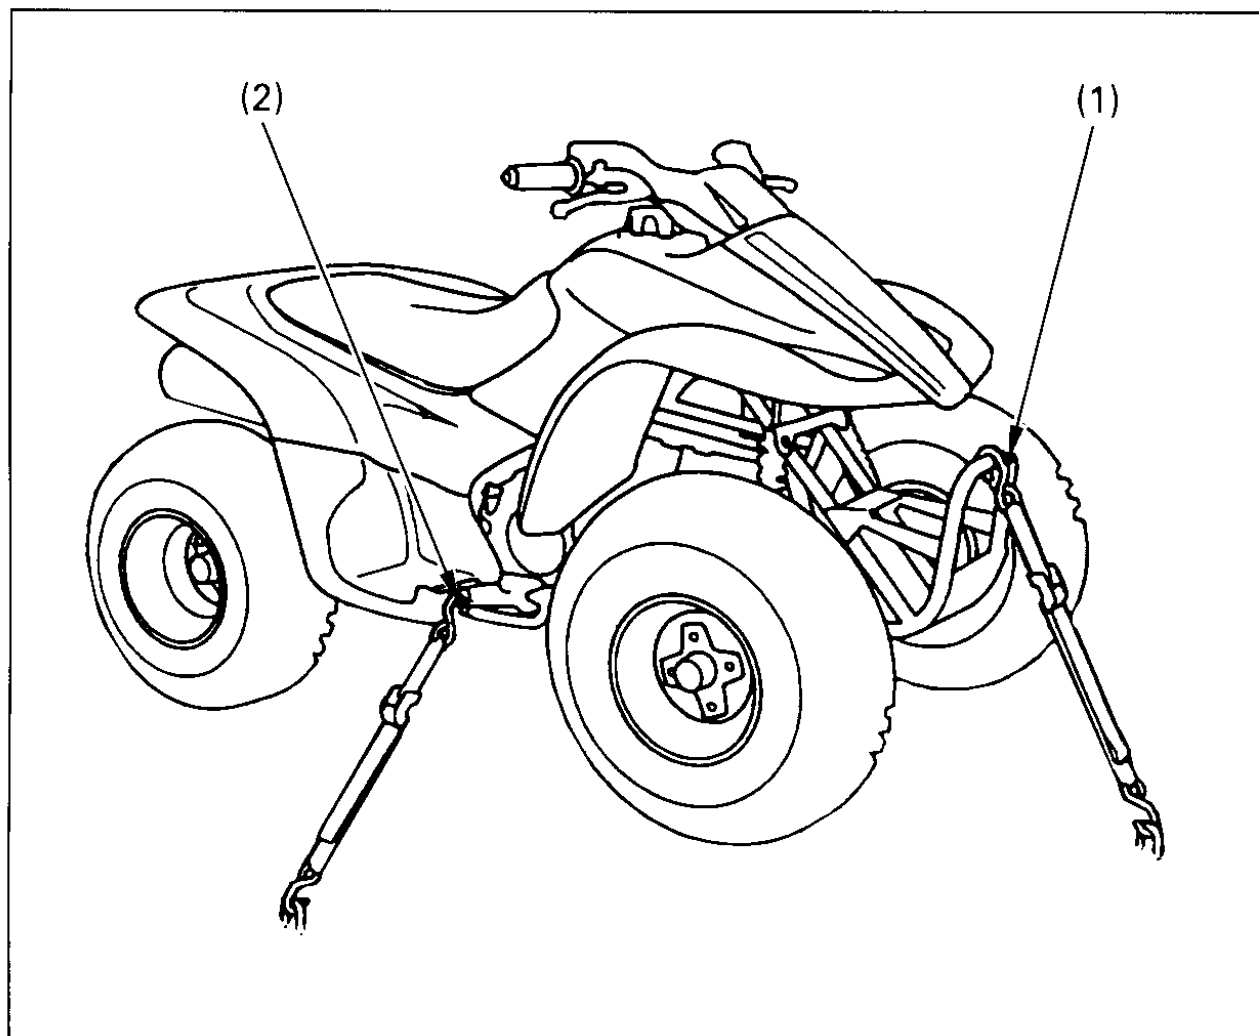

Fig. 4-31 Points to secure Sportrax with tie downs
3. Secure the vehicle with "tie downs" in the areas shown (Fig. 4-31). Suitable "tie downs" are available from your Honda dealer. Ordinary rope is not recommended because it can stretch under load.